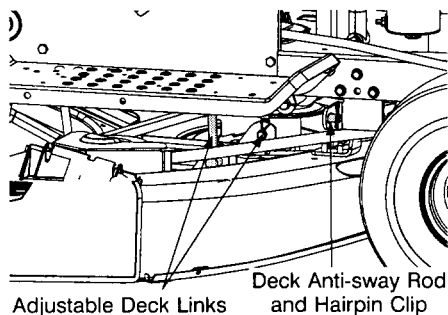

FIGURE 20
- Locate the deck anti-sway rod and adjustable deck links found near the front of the cutting deck. See Figures 20 & 21.
NOTE: For normal service and maintenance, the deck stabilizer bracket doesn't need to be removed from the tractor. If removing the cutting deck in order to mount a snowthrower attachment, however, the stabilizer bracket must be removed. To do so, simply remove the hairpin clip which secures the stabilizer rod to the stabilizer bracket. See Figure 20.